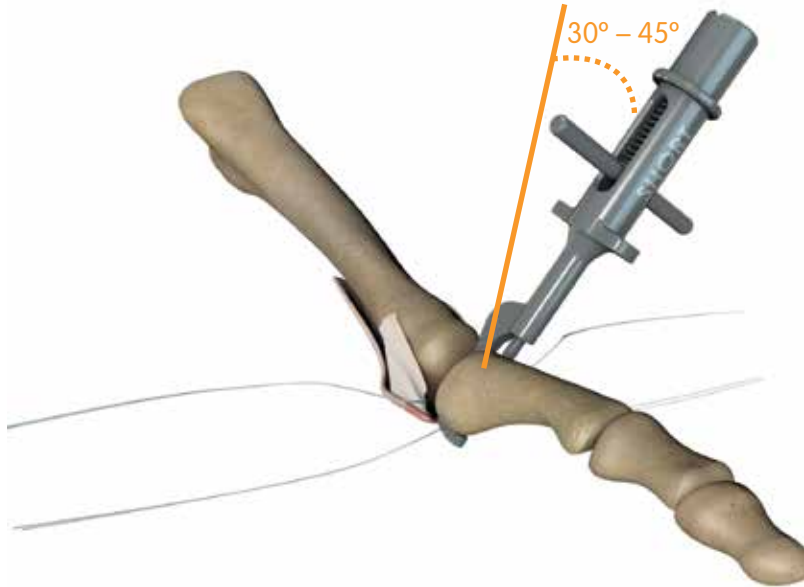

Figure 14: Phalangeal Drill Guide, Short Offset placed at 30 – 45° to the sagittal plane.
1. Drill a bone tunnel using the Phalangeal Drill Guide, Short Offset (REF 72204321) and 1.6mm K-wire from the procedure pack. Place the distal tip of the drill guide at the ligament attachment site on the boney rise of the phalanx. Place the curve of the drill guide on the concavity of the phalanx (Figure 14). Place the proximal end of the drill guide 30° – 45° to the sagittal plane.